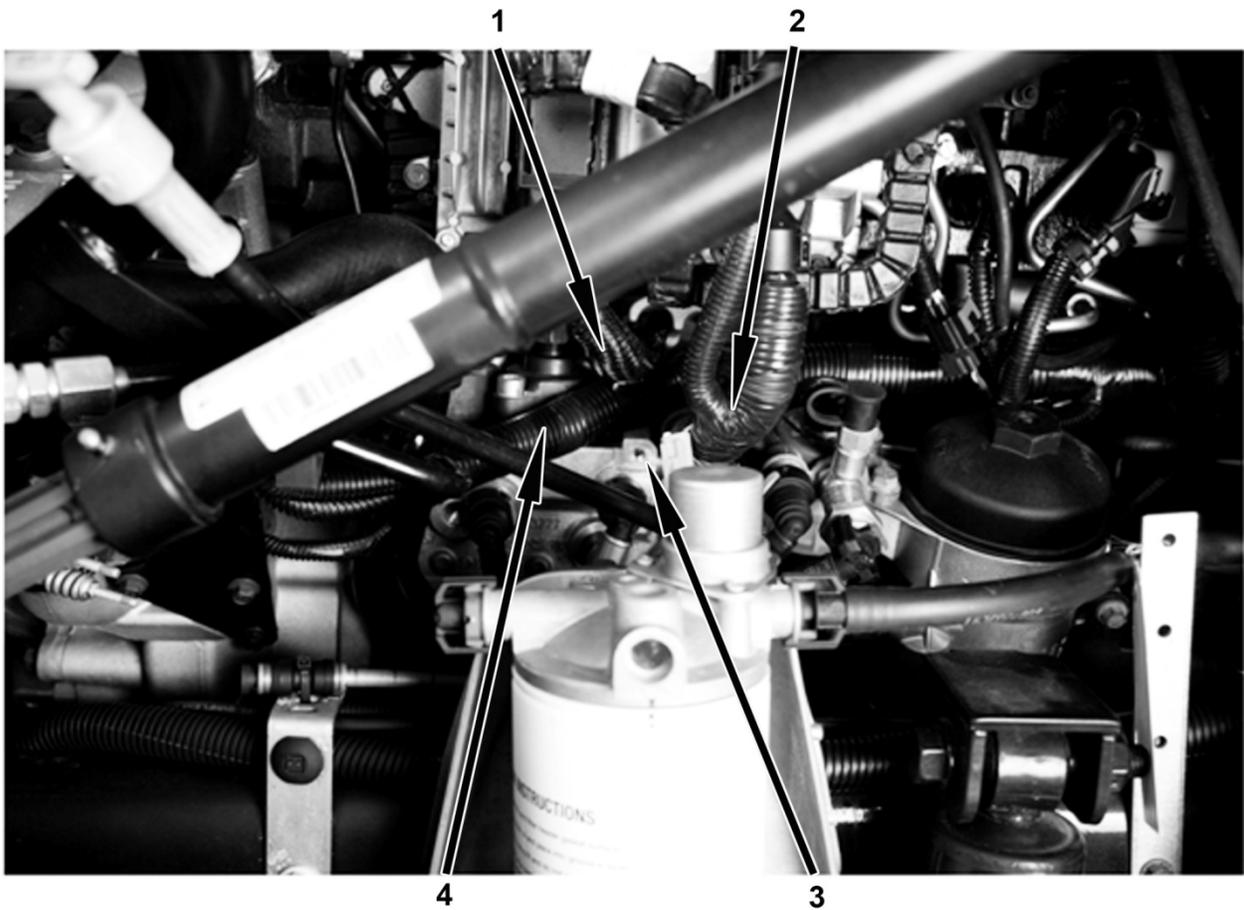

Figure 13
13. Insert a second cable tie strap (306132C1) through Bosch strain-relief ECM bracket and around chassis-to-ECM harness and tighten cable tie strap enough to lift harnesses off pump boss (Figure 13).